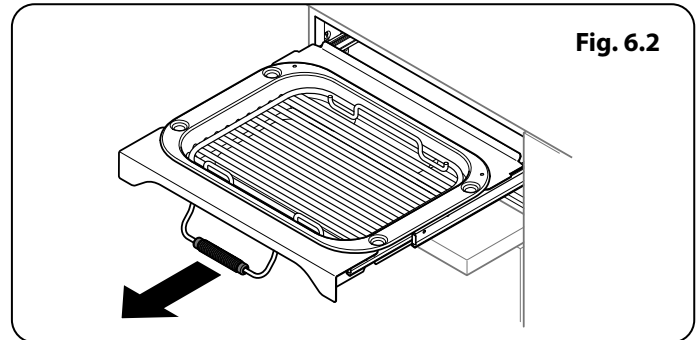
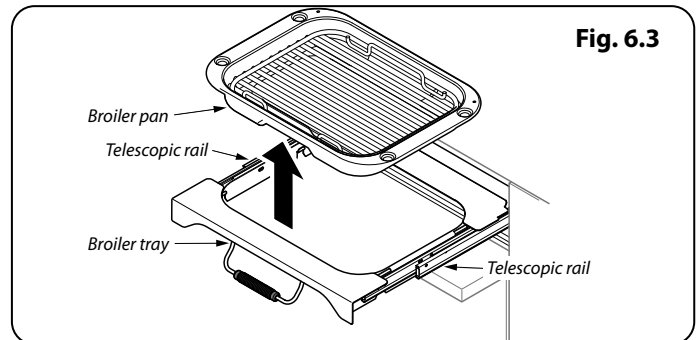

Fig. 6.2
Fig. 6.3
1. To remove the broiler pan, pull the tray assembly forwards (**Fig. 6.2**) and then lift the broiler pan clear of the broiler tray assembly (**Fig. 6.3**).